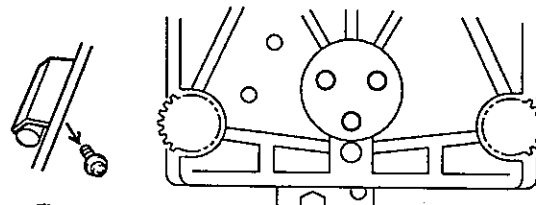

Fig.4
- Step 4** Remove the mechanical unit from the lower case. (Fig. 4)